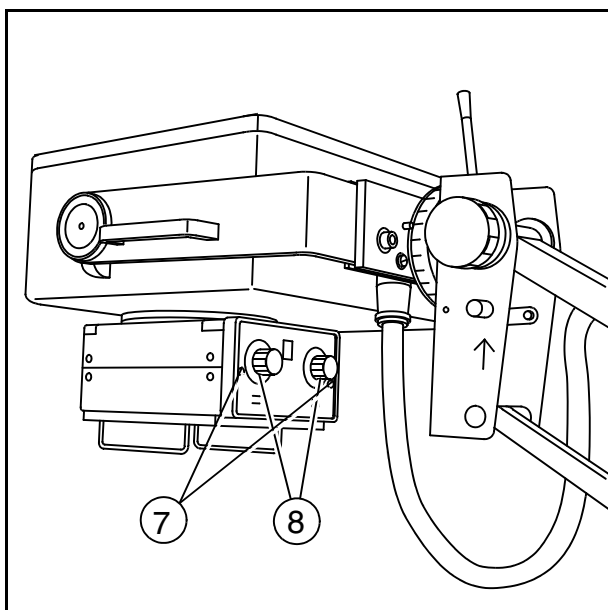

Fig. 4
- Turn the two knobs (8/Fig. 4) in their final position and remove them.
- Remove the front panel after having loosened the two screws (7/Fig. 4).
- Turn both knobs (8/Fig. 4) to an end position and remove them.
- Remove front panel after loosening both screws (7/Fig. 4) .